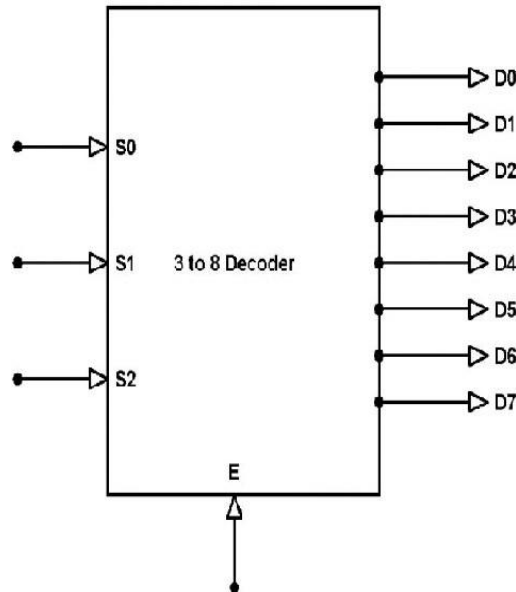

Fig. no. 9.2: 3:8 Decoder
**3:8 Decoders:** As shown in Fig. no.9.2, 3: 8 De-coder having three input lines and eight output lines. It has no select lines like demultiplexer which are used as the control signals. When this decoder is enabled with the help of enable input E, then it's one of the eight outputs will be active for each combination of inputs. The operation of this 3-line to 8-line decoder can be analyzed with the help of its truth table which is given below in truth table 9.1 of 3:8 decoder.